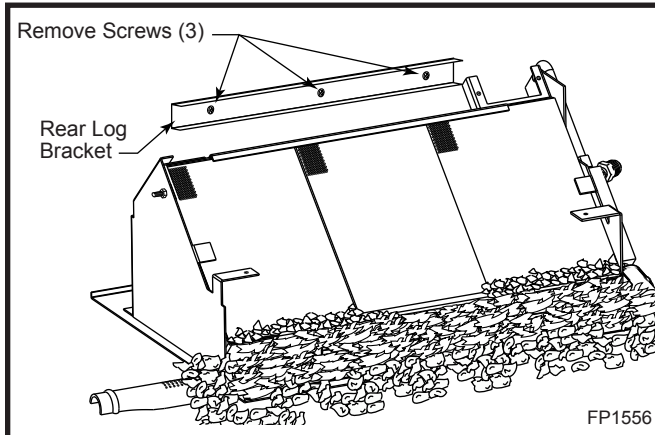

Fig. 36 Remove rear log bracket.
4. Remove the rear log bracket by removing three (3) screws. On some models you may be able to loosen the screws and slide bracket to the left and out. (Fig. 36)